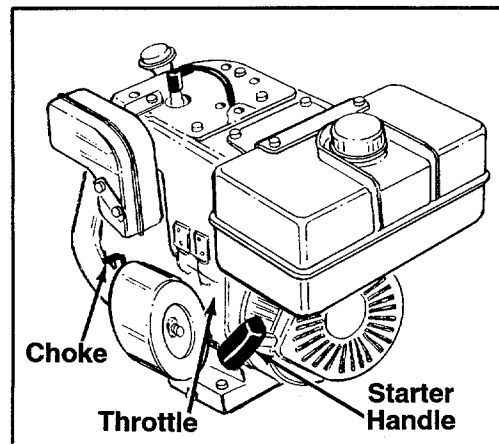

FIGURE 4.
1. Place the throttle control lever in FAST position. See figure 4.
3. Grasp starter handle (see figure 4) and pull rope out slowly until engine reaches start of compression cycle (rope will pull slightly harder at this point). Let the rope rewind slowly.